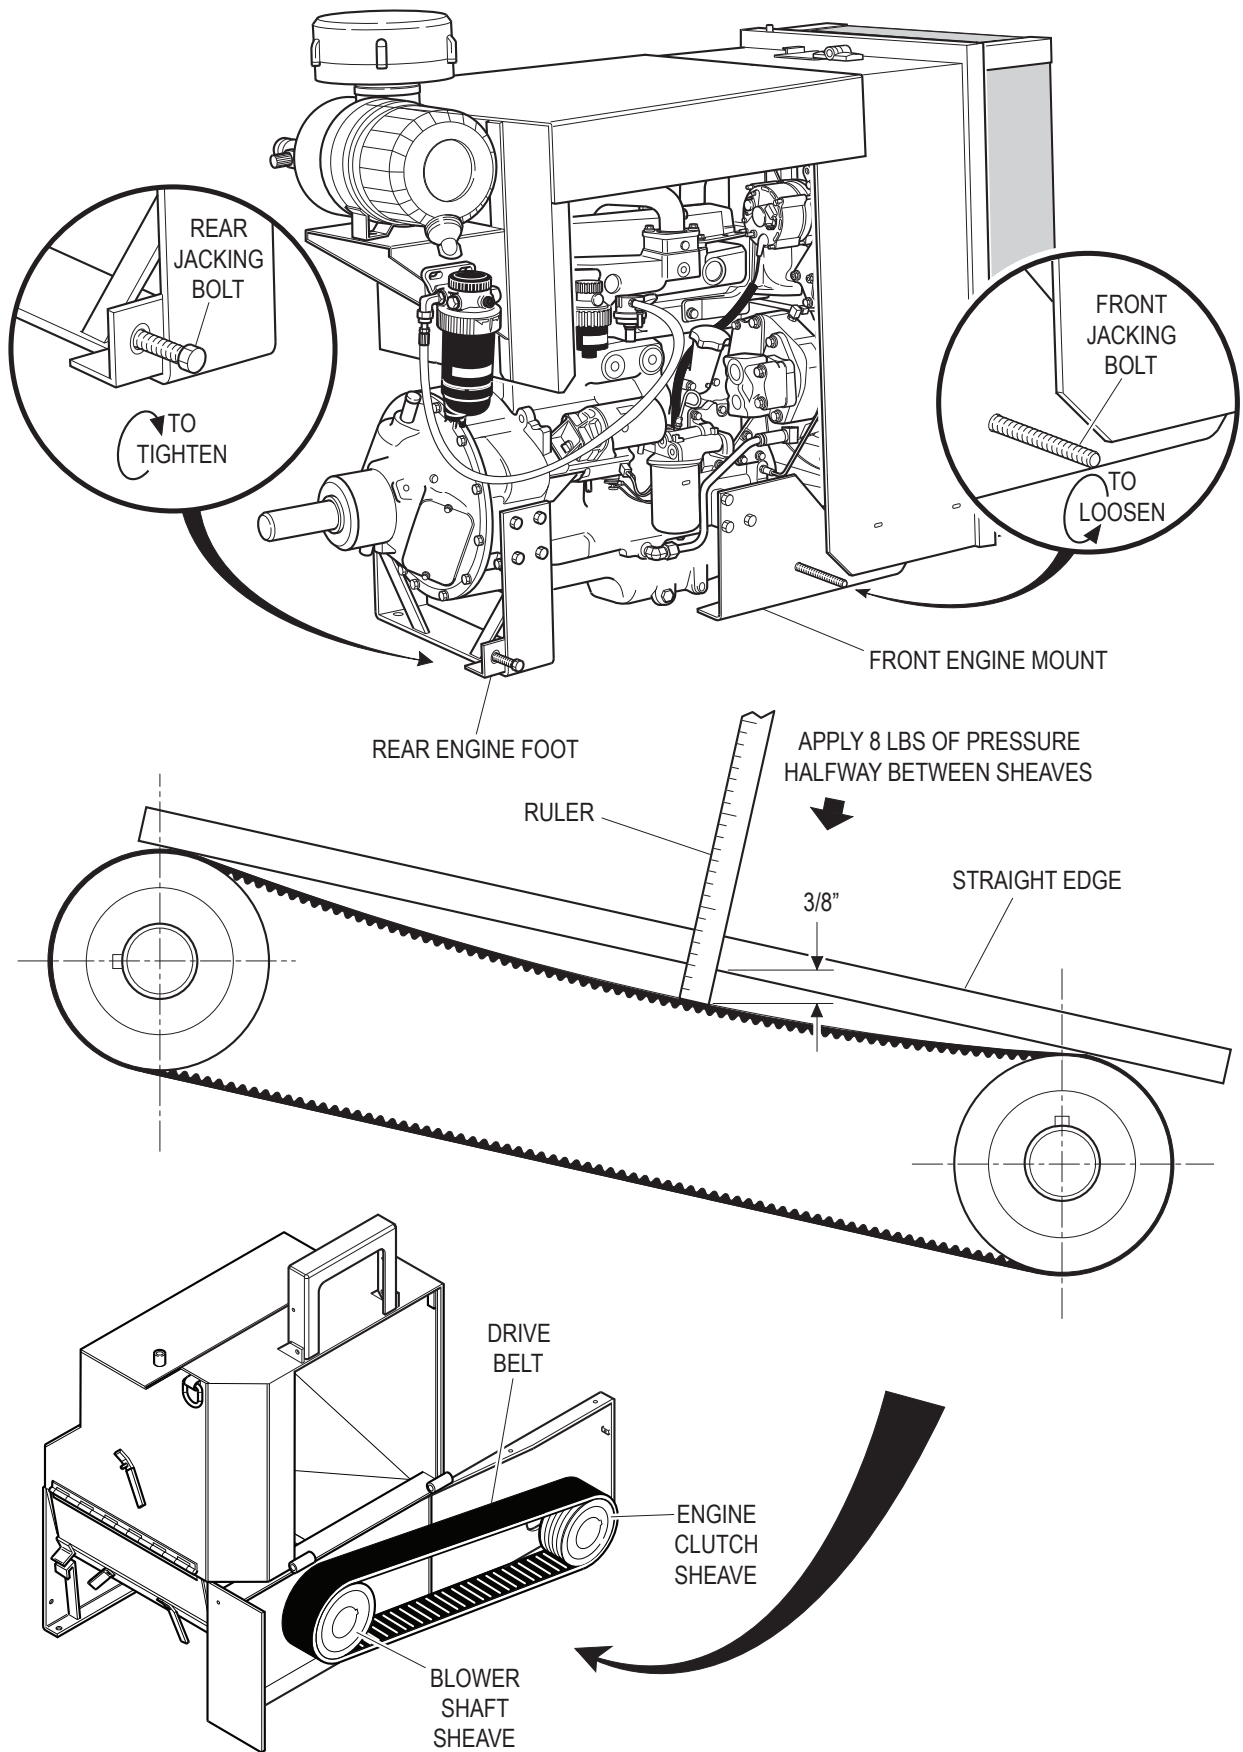

FIGURE 8 - ADJUSTING THE DRIVE BELT
2. Position a straight edge across the belt from the Blower Shaft Sheave and extending across the top of the Engine Clutch Sheave. See Figure 8.